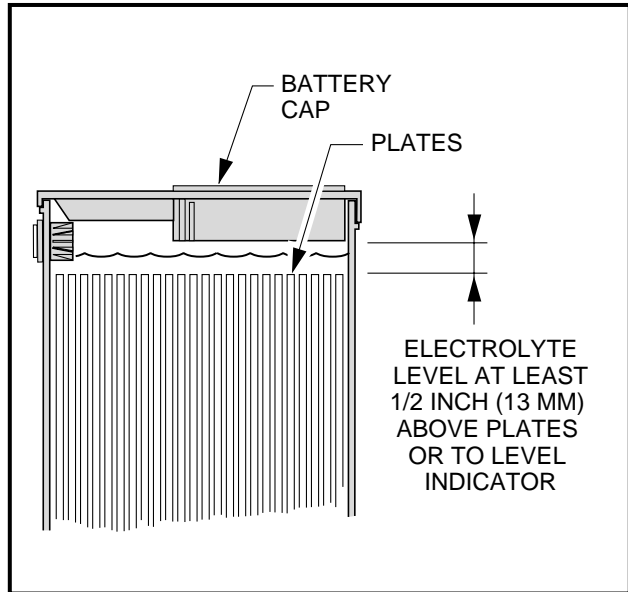

Figure 11-23 Battery Electrolyte Level
1. Be sure that the battery has sufficient water to cover the plates by approximately 0.5 inch (12.7 mm) and is fully charged prior to beginning the test. If water must be added, recharge the battery before performing the hydrometer test (**Figure 11-23, Page 11-22**).